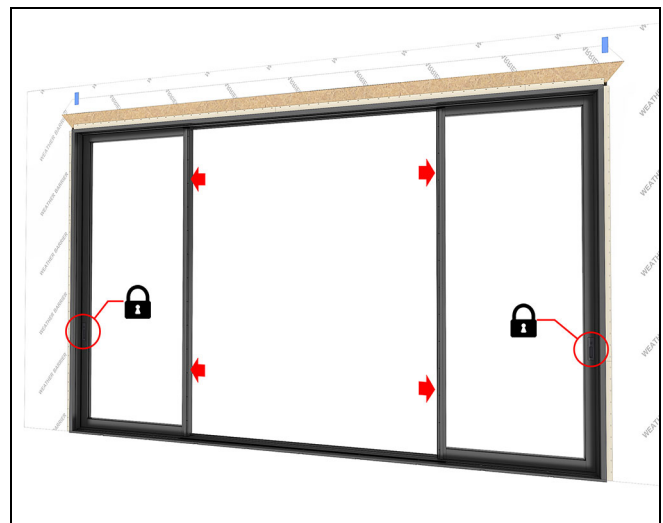

Figure 161
5. Close and lock the panels. See Figure 161.